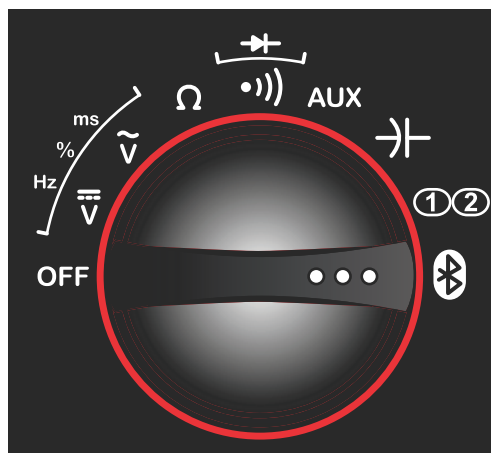

Figure 5-19 *Sample remote functions selected*
5. With the Bluetooth Discovery mode active, turn the M2 Rotary Switch to the Remote Functions position (Figure 5-19).